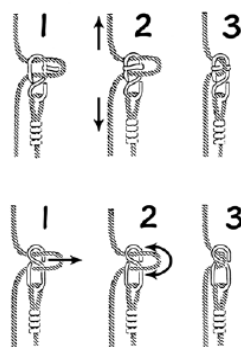

figure 2
16. Specific instructions for adjusting the ropelength (figure 2). Ensure that the product hangs horizontal after adjustment of the ropes.